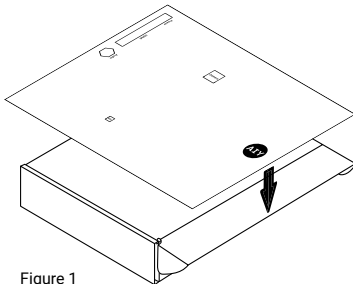

Figure 1
- 2 Apply glue everywhere on the bottom of the Box Wrapper Template, and then paste it onto the Coral USB Accelerator box so the AIY logo is on the front flap, as shown in figure 1.